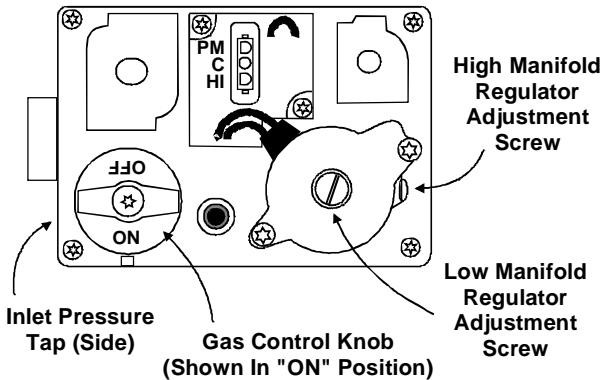

Figure 2
6. Turn the gas control knob clockwise to the Off position (Figure 2). The knob should turn easily. Do not
8. If gas can be smelled following the five minute waiting period in Step 7, follow the instructions on Page 1 of this manual. If gas can not be smelled, turn the gas control knob counterclockwise  to the On position (Figure 2). The knob should turn easily. Do not use excessive force.
4. Turn the gas control knob clockwise  to the Off position (Figure 2). The knob should turn easily by hand. Do not use excessive force.